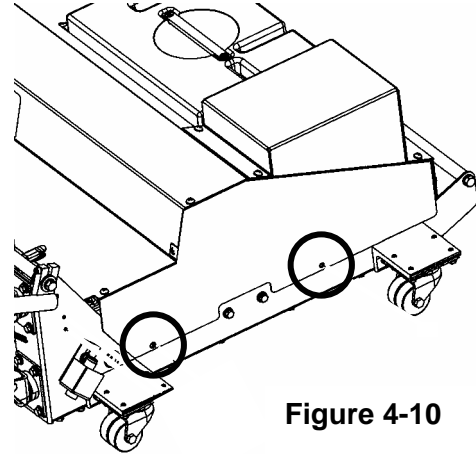

Figure 4-10
1. Remove the two screws, shown in Figure 4-10, from both sides of the hood and lift the hood from the frame. Set aside the screws.